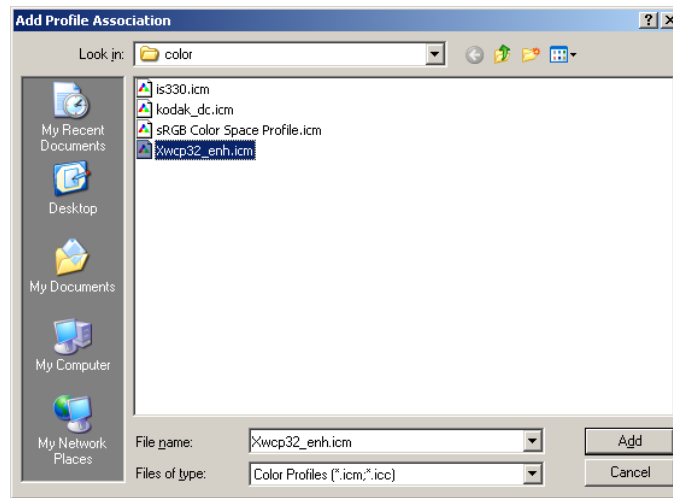

Figure 5. Selecting Color Profile for Import
4. Browse to the color profile .icm file desired and select it. (See Figure 5).